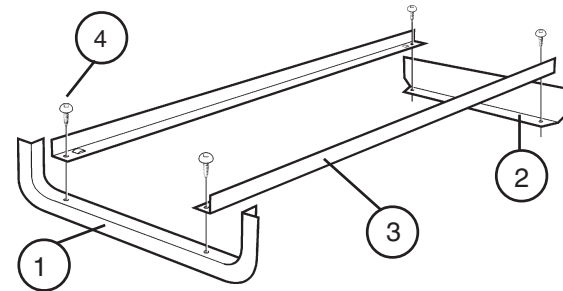

Figure 16: Assembly of Egg Tray Frames
Step 12: Assemble each of the egg tray frames. For each frame, attach the front and rear frame rails by fastening the frame rails (Items 1, 2, 3) with Item 4 (Figure 16).